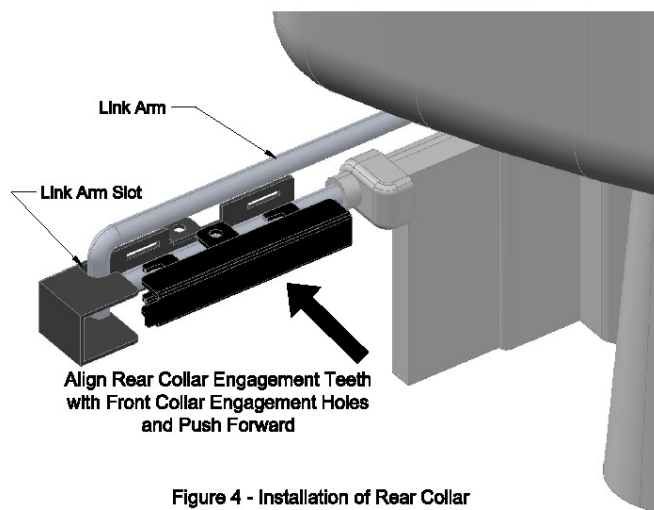

Figure 4 - Installation of Rear Collar
3. With one hand place the front collar of the Dock-N-Loc in front of the piston rod as shown in figure 4. Slide the front collar so that the link arm of the outboard engages the link arm slot of the Dock-N-Loc.
4. While still holding the front collar with one hand, use the other hand to place the rear collar over the piston rod as shown in figure 4. Align the engagement teeth of the rear collar with the engagement holes of the front collar and push the rear collar forward until the engagement teeth protrude from the front collar.